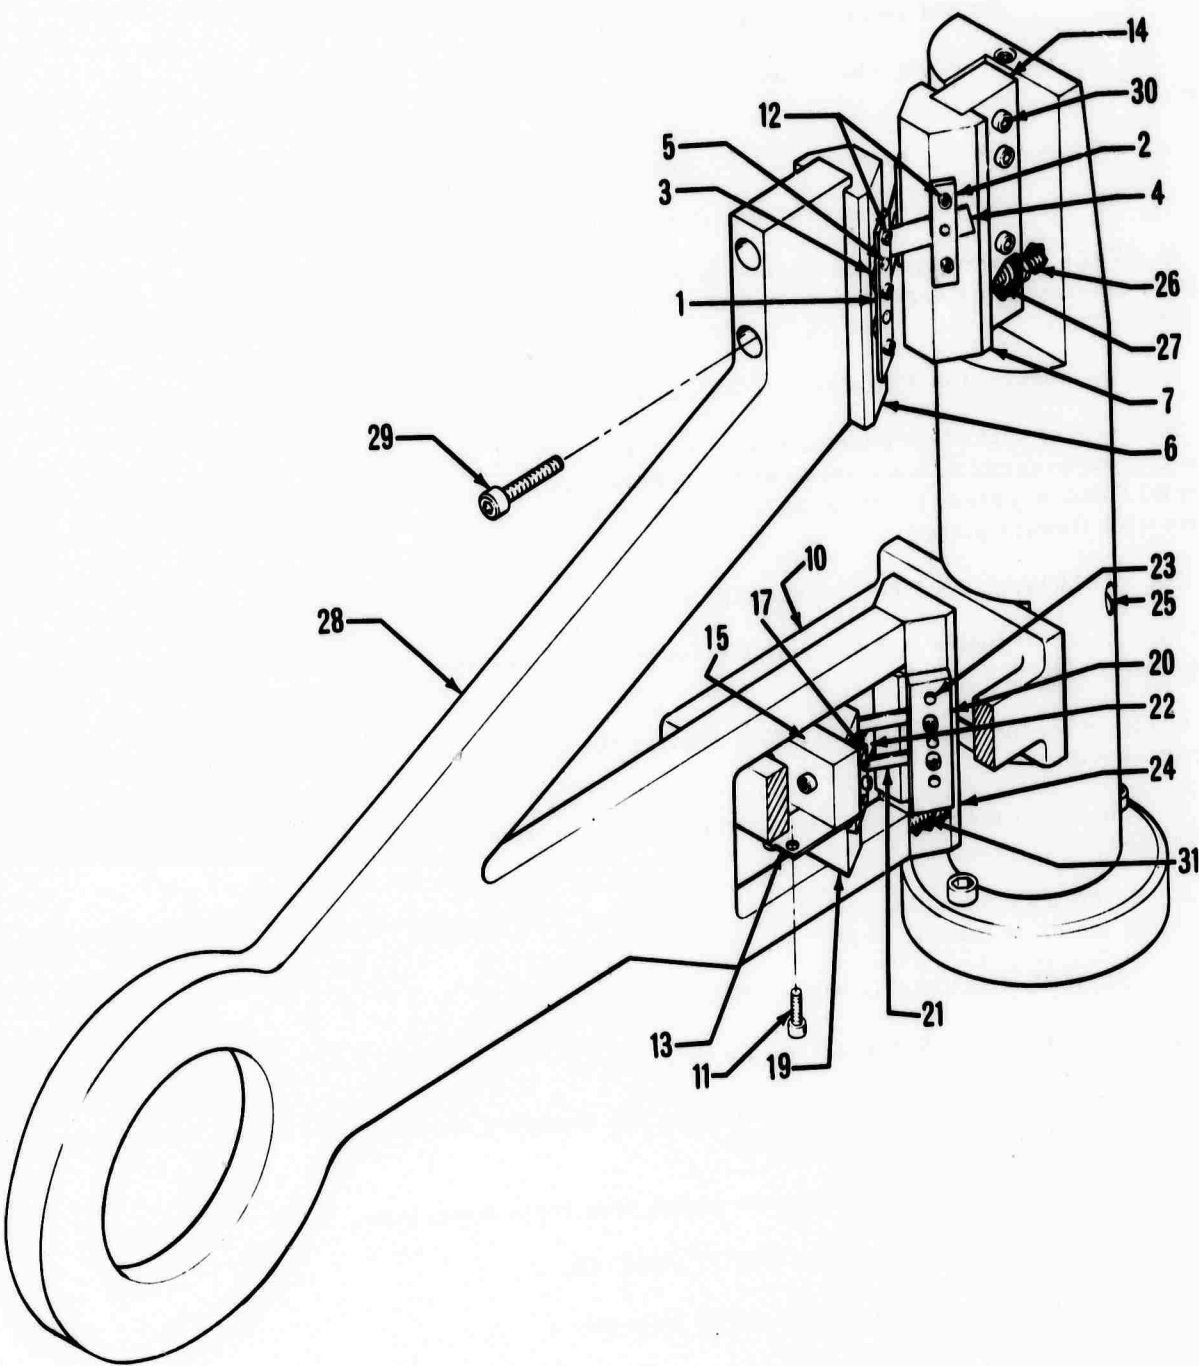

Figure 5-7. Disassembly of the Boom
- d. Remove the two capscrews (25, figure 5-7) which secure the lower pivot assembly to the mast.
- e. Remove the two capscrews on slide mount (14) which secure upper pivot assembly to mast.
- f. While supporting suspension arm with one hand, remove shoulder screw (30) from the upper pivot assembly and carefully work lower pivot assembly support off its dowel pins until suspension arm is free.
5-31. Refer to figure 5-7 and remove the pivot assemblies, by performing the following steps in the order listed:
5-33. Refer to figure 5-7 and proceed as follows:
5-45. Refer to figure 5-7 and reassemble the lower pivot assembly by performing the following steps in the order listed:
5-47. Refer to figure 5-7 and reassemble the upper pivot assembly by performing the following steps in the order listed.
5-49. Refer to figure 5-7 and install the pivot assemblies and suspension arm by performing the following steps in the order listed.
5-53. The upper pivot should be adjusted whenever the mass position versus period test fails (paragraph 5-19) or whenever the pivot assembly has been removed. Refer to figure 5-7 and adjust the upper pivot assembly by performing the following steps in the order listed. Base should be level.